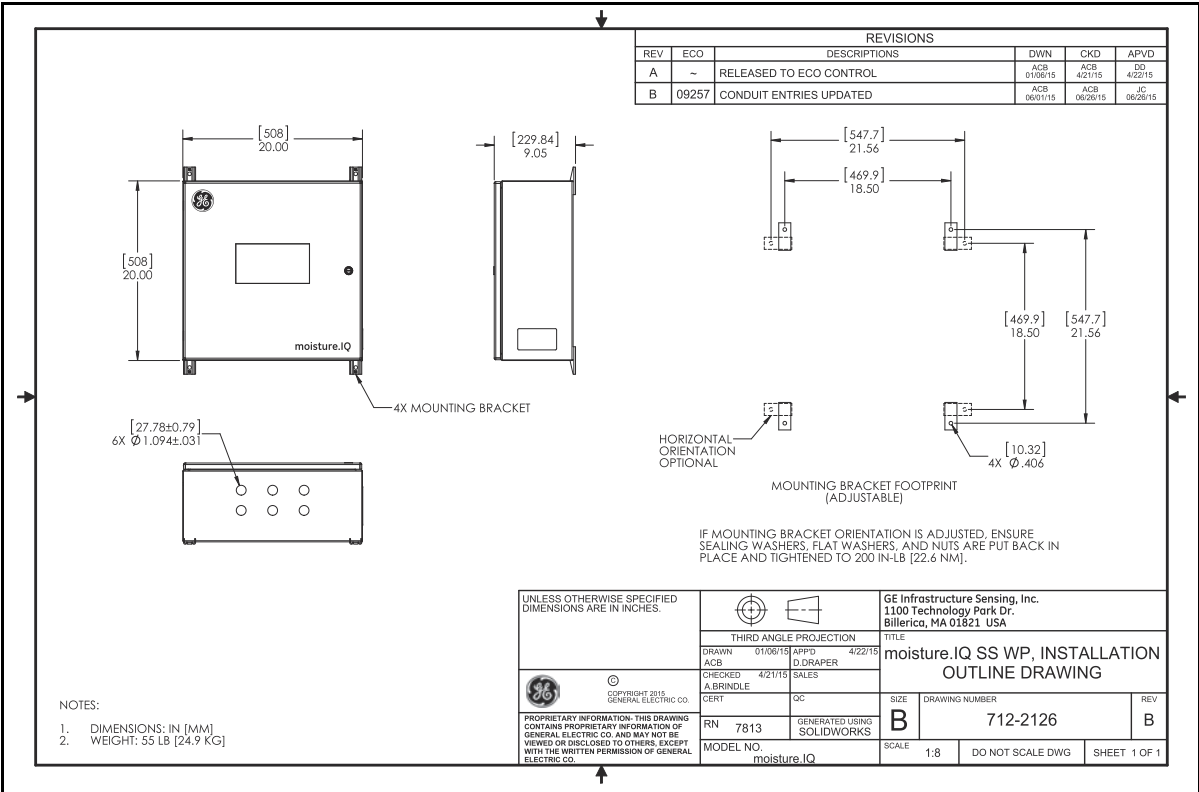
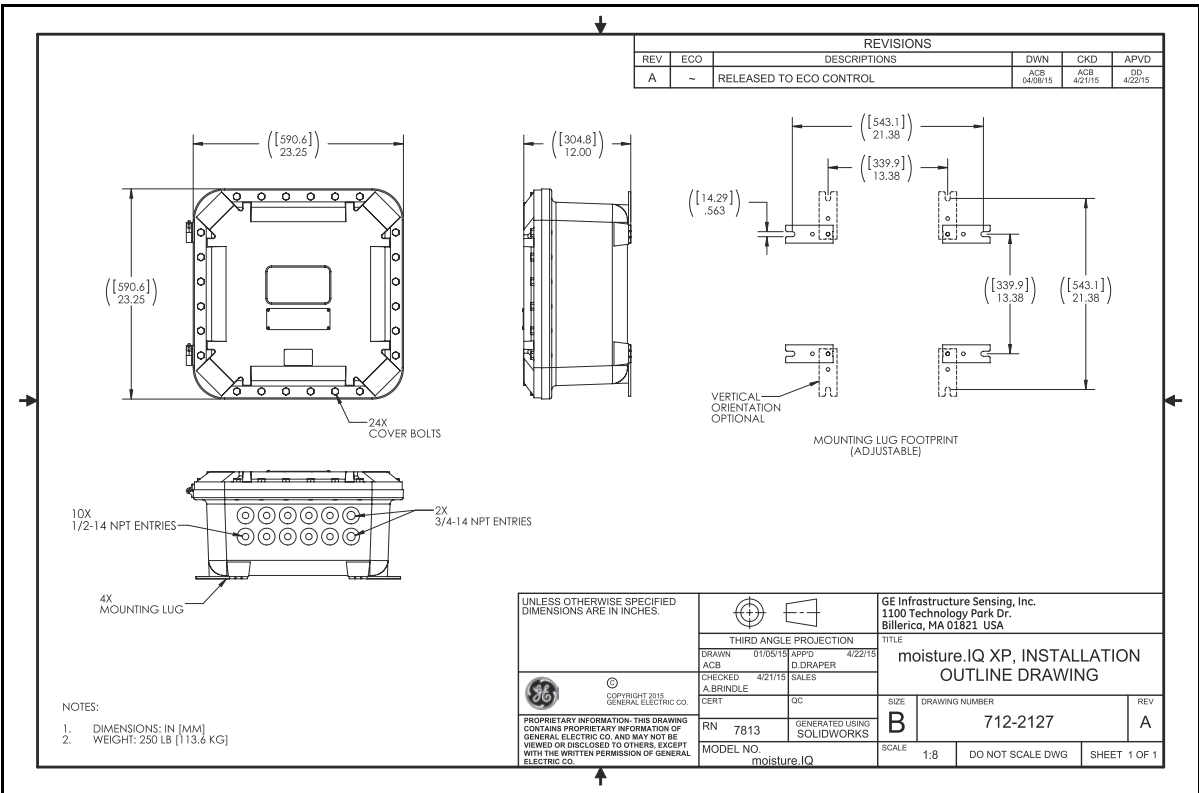

Figure 10: SS WP Installation Outline Drawing (Dwg. 712-2126_revB, SH 1 of 1)
Figure 11: XP Installation Outline Drawing (Dwg. 712-2127_revA, SH 1 of 1)
- The installation should comply with **installation drawings** 712-2126 stainless steel weather-proof version (see *Figure 10* on page 6) and 712-2127 explosion-proof version (see *Figure 11* on page 6).